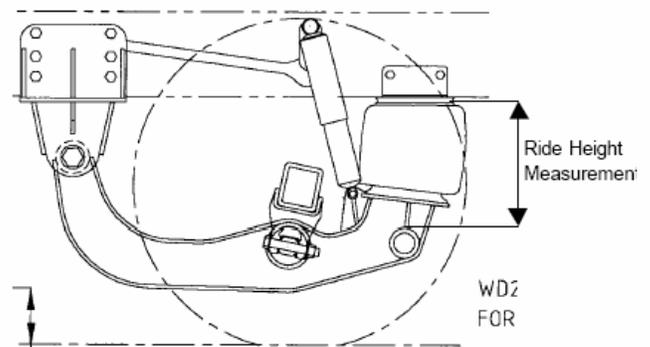

Figure 2
- This ride height is measured when the vehicle brakes have been disengaged and the Bus is on flat ground. See "Figure 2".